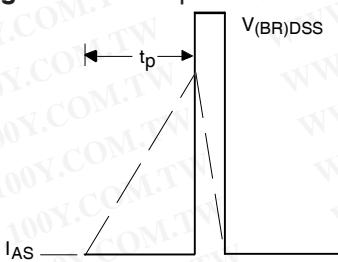

**Fig 11.** Maximum Effective Transient Thermal Impedance, Junction-to-Case
- $Z_{thJC}(D, t_{av})$  = Transient thermal resistance, see figure 11)